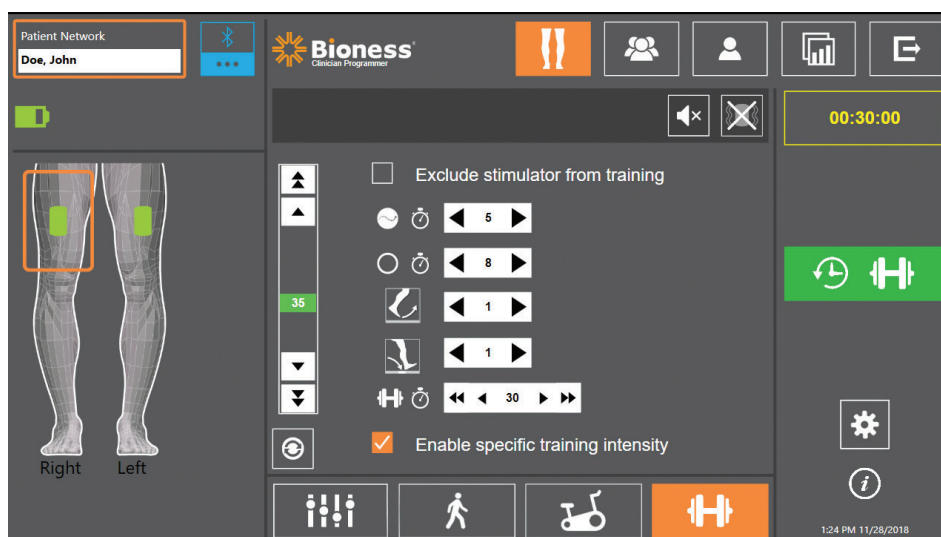

Figure 9-9: Programming Stimulation, Training Settings Screen
- The Training Settings Screen will open. See Figure 9-9.